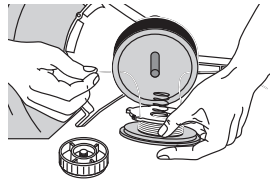

Fig. 34
- Insert the ends of the line through the eyelets in the outer spool and place inner reel with spring inside the outer spool (Fig. 34). Push the inner reel and outer spool together. While holding the inner reel and outer spool, grasp the ends and pull firmly to release the line from the holding slots in the reel.